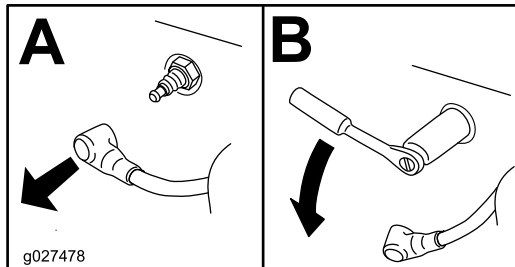

Figure 28
4. Remove the spark plug (Figure 28).